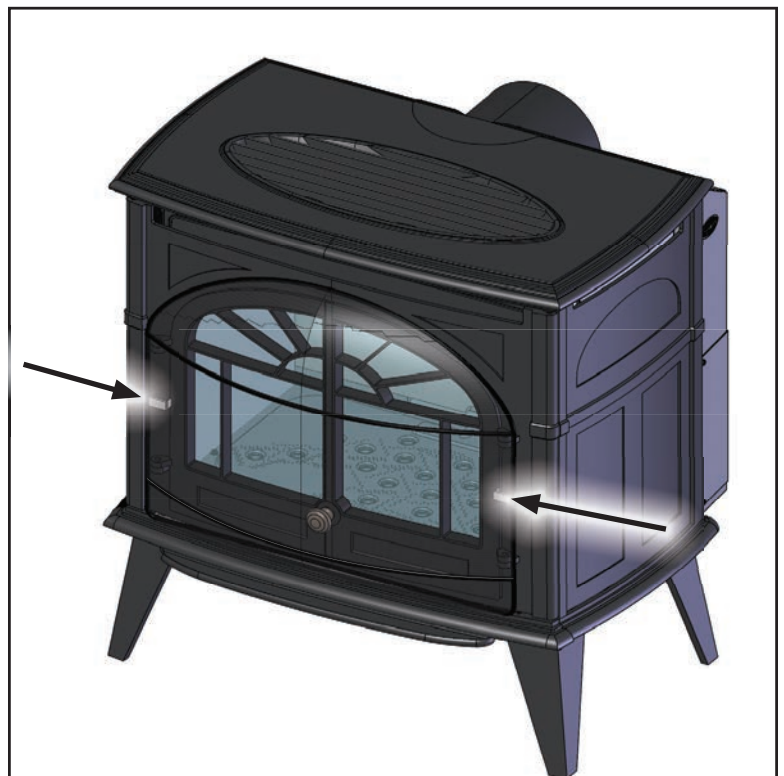

Figure 67: Safety Screen Removal
2. Push the sides of the safety screen inwards, towards each other, to release the spring clips and remove the safety screen (see figure 67).